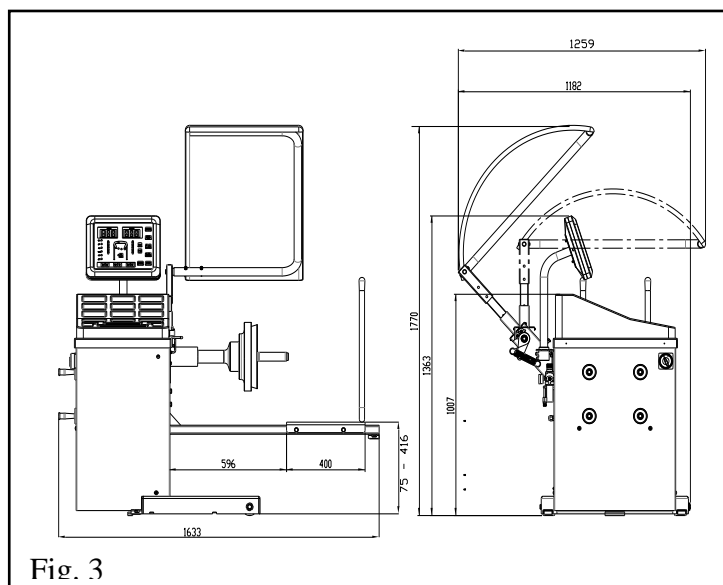
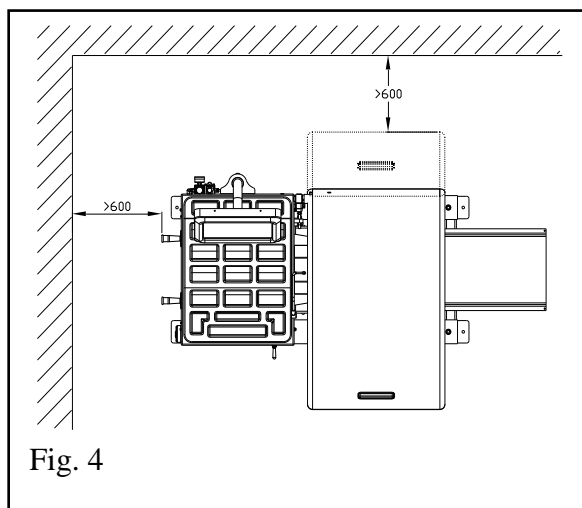

Fig. 3
Fig. 4
- Select a location for the balancer that provides a level, solid floor, and adequate clearance around and above the balancer. The place of installation must also provide at least the space shown in pictures Fig. 3 and Fig. 4 so as to allow all parts of the machine to operate correctly and without any restriction.